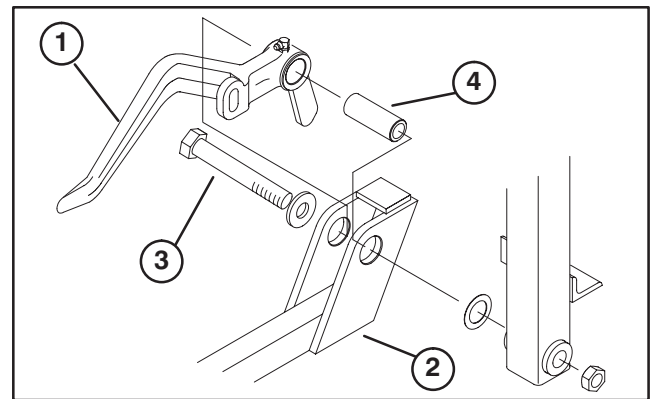

Figure 4
10. Remove capscrew, flat washer, spacer, thrust washer and nut securing rear lift arm and carrier frame to traction unit frame (Fig. 4). Discard lift arm, carrier frame, capscrew, spacer and nut.